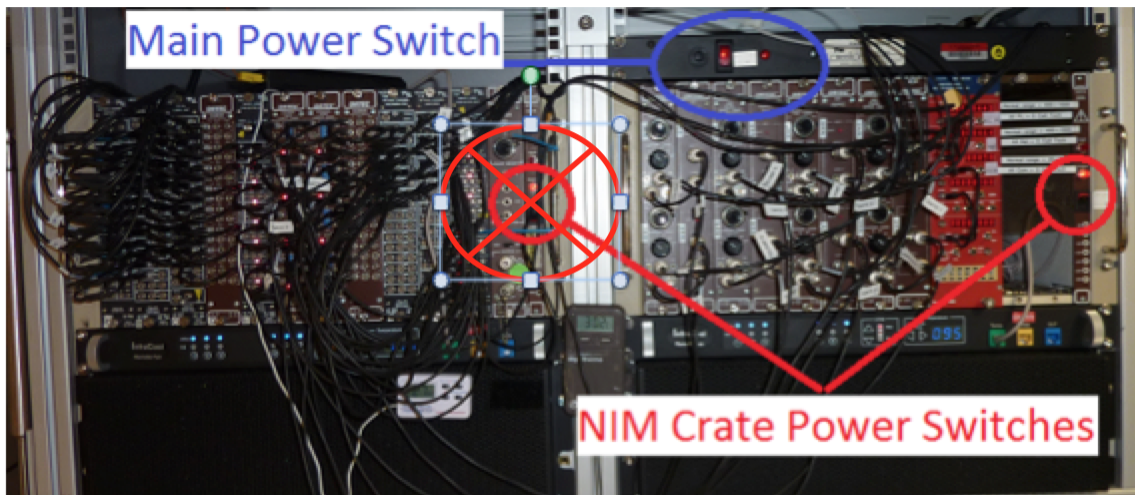

Figure 16. Electronics Crate shutdown switches.
9. Turn off the NaI detector electronics (right-hand NIM rack next to iSEG crate; Figure 16). This will turn off the high-voltage supply to all 8 NaI detectors. **IMPORTANT: Do not turn off the left-hand NIM rack (marked with a circled X in Figure 16 below) or the main power (blue circle) at this time.** Leave all other electronics and fans running to prevent additional condensation from forming.
Take your time. Let the electronics settle. This is not a race. Voltages across any given NaI detector may be monitored with a volt-meter at the bias box with 8 red touch points and a white single ground point. Do **not change the voltage** at any NaI detector at the junction box!!! Remember if you need to switch off the High Voltage you must switch off the whole right-hand NIM crate (right-hand NIM crate button in Fig. 16) as outlined in the partial shutdown procedure, which will turn the high voltage off from all NaI detectors simultaneously.
4. **Turn on** the NaI detector electronics (**right-hand NIM rack**, next to iSEG crate, the **right red circle** in *Figure 16*).
5. **Turn on** the fast signal processing electronics (**left-hand NIM rack**, the **left red circle** in *Figure 16*).